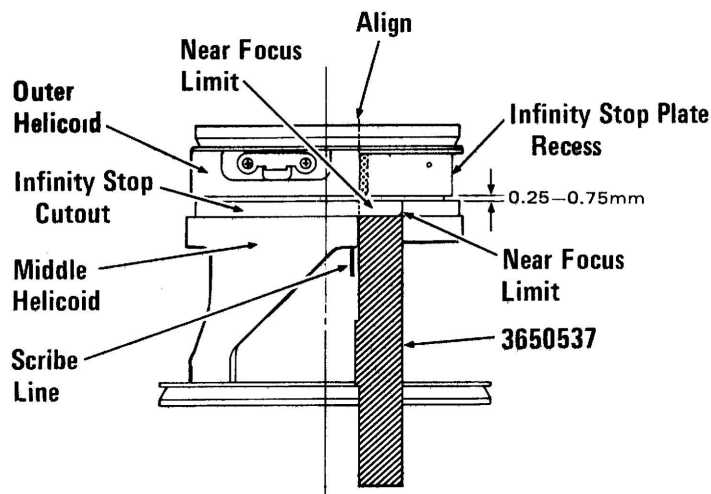

FIG. 5-2
- c) Using Tool No. 3650537 as shown, place a scribe or reference line 9mm (.354") from the near focus limit of the infinity stop cutout of middle helicoid. Fig. 5-2. (Width of the tool is 9mm.)
- d) Unscrew outer helicoid until a distance of 0.25mm (.010") to 0.75mm (0.028") [usually about 0.5mm (.020") is right] is opened between the middle and outer helicoids and the edge of the infinity stop plate recess aligns with the scribe mark on the middle helicoid. Fig. 5-2.